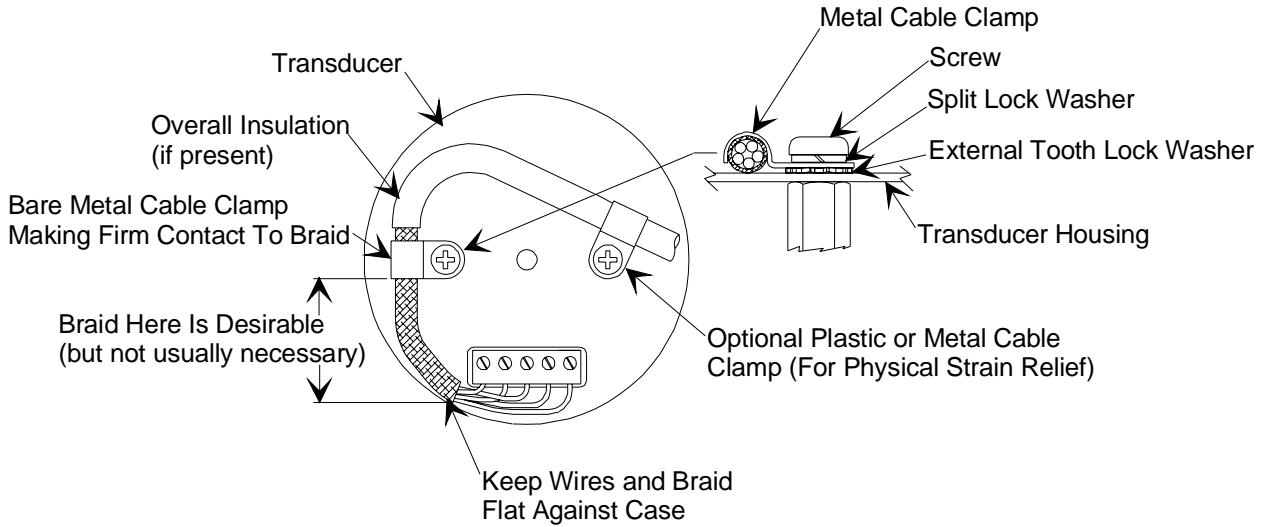

Figure 1: Preferred Method To Connect a Shielded Cable
4. For shielded cables with flying leads at one or both ends; it is important at each such end, to ground the shield *before* the wires exit. Make this ground with absolute minimum length. Refer to Figures 1 and 2, page 9. (A ¼ inch piece of #22 wire may be undesirably long since it has approximately 5 nH of inductance, equivalent to 31 ohms at 1000 MHz). After picking up the braid's ground, keep wires and braid flat against the case. With very few exceptions, grounded metal covers are not required over terminal strips. If one is required, it will be stated in the Declaration of Conformity or in the instruction manual.